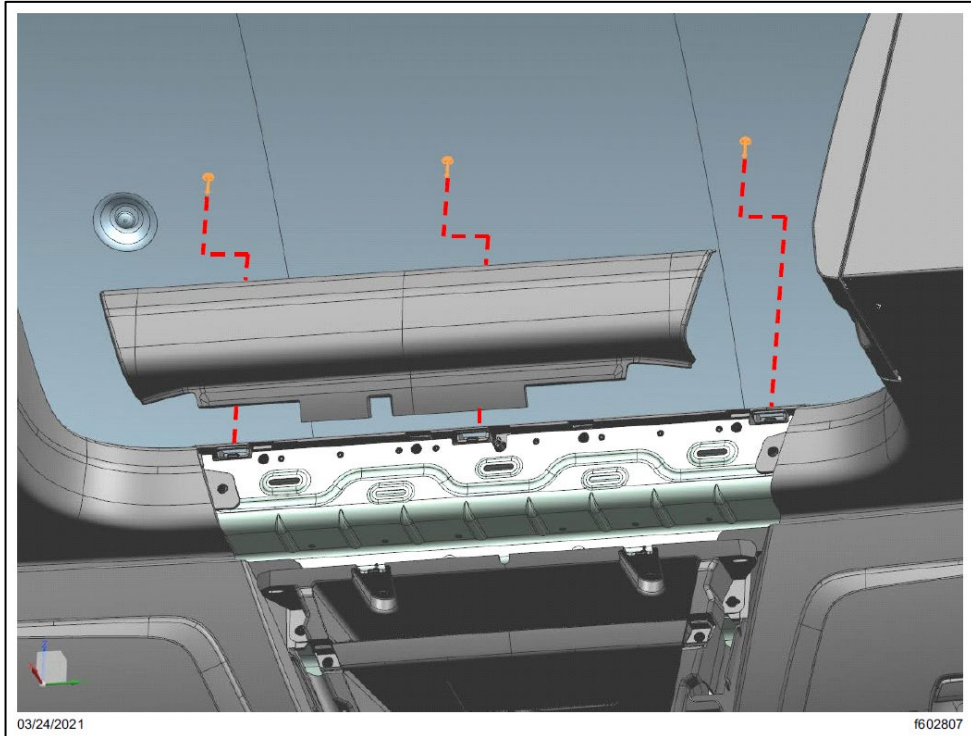

Fig. 47, Storage Shelf Bezel Removal
- 8.4. Remove three fasteners that attach the storage shelf bezel to the cab roof, and then remove the storage shelf bezel from the vehicle. See Fig. 47.